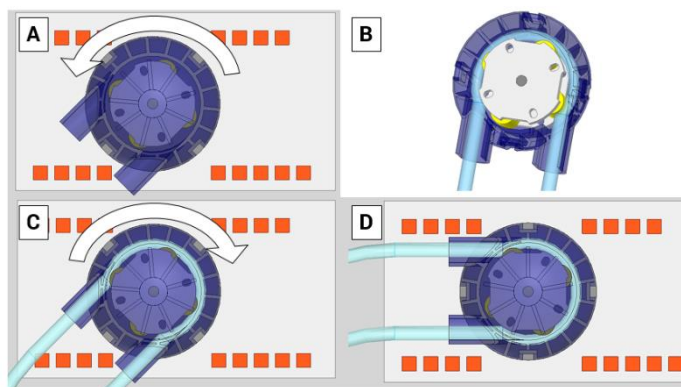

Figure 0.24. Demonstration of tube insertion into the peristaltic pump
- 2) Remove the peristaltic pump's head by turning it counter-clockwise. Place the silicone tube around the rotating part of the pumps head and place both ends into their outlets (see Figure 0.24 - A, B and C);
- 3) Place the pump head with an installed silicone tube back into the peristaltic pump unit by lightly pressing it in the respective socket and turning it clockwise (see Figure 0.24);